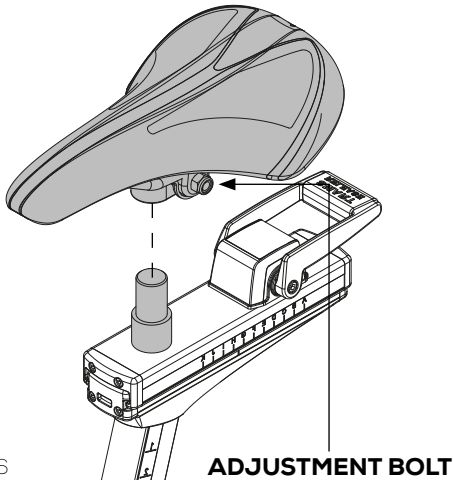

Figure 6
- 2) Press the bottleholder into the steer as shown in figure 6.